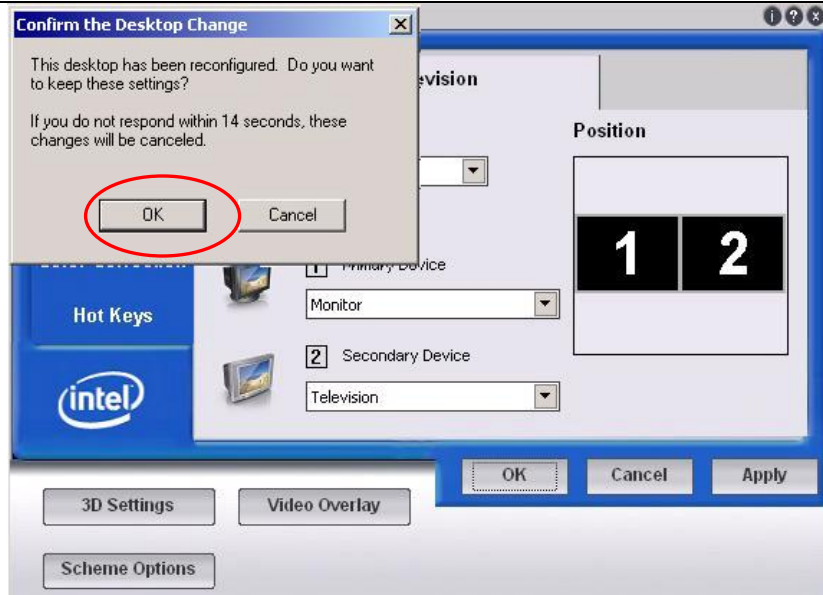

Fig.3-6
- 4) The below dialog box will appear, and press “OK”. See picture in Fig.3-6.